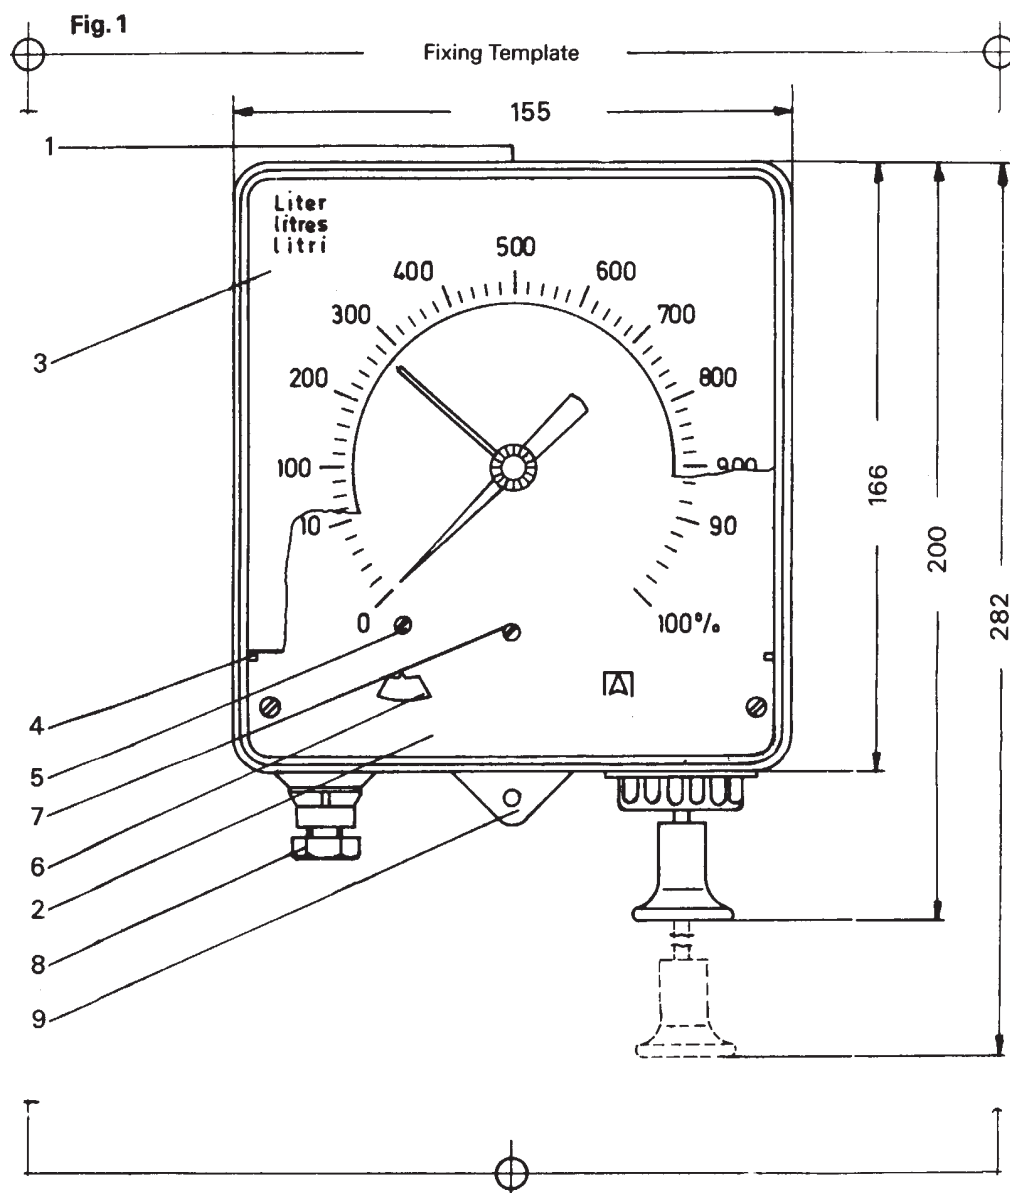

Fig. 1
1. Gauge Mounting (see Fig.1)
3. Instrument Adjustment (see Fig.1)
If your instrument has been calibrated in gallons, litres or other specific units to your requirement in our Works Department then it is only necessary for you to check that the pointer is in fact on the zero mark with the capillary tubing disconnected. If this is not the case then the zero correction screw No.7 (see Fig.1) should be turned to bring the pointer to the zero mark. Then the capillary tubing is reconnected airtight and the installation will be ready for operation.
This index figure which has been obtained should then be set on the Index scale on the instrument (No.6 on Fig.1) by removing the glass of the unit and using the Index Adjustment Screw (No.5 on Fig.1) By turning the zero correction screw (No.7 on Fig.1) the pointer is now brought to the zero mark and the instrument is now fully adjusted for the tank in question.